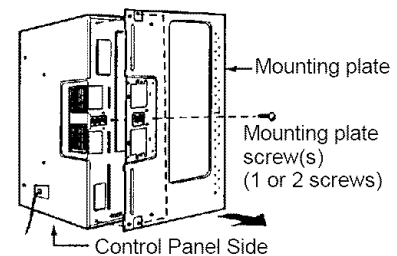

Figure 11
1. Remove mounting plate screw(s) (1 or 2 screws) from the mounting plate as shown and discard. See Figure 11.